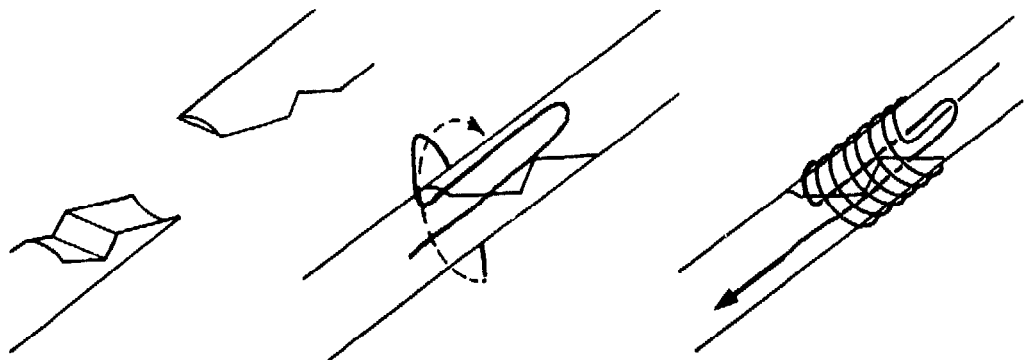

Figure 3.3 – Joining the driving-belt with a silk yarn
When no pair of combination pliers is available the *driving belt* can also be joined with a piece of artificial silk yarn (figure 3.3).
- Taper the overlapping ends of the belt and make two small incisions in these ends as shown in figure 3.3.